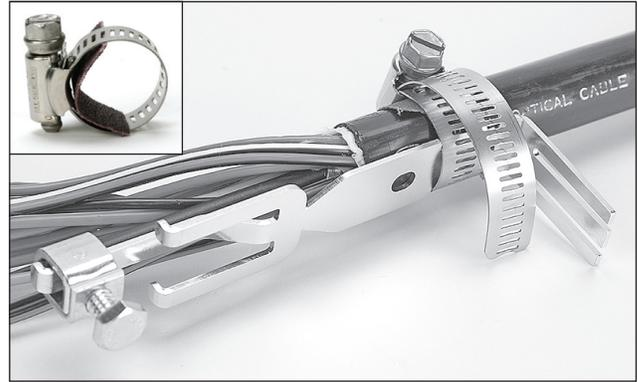

Figure 2
- 3.4.2 If cable has central strength member, assemble strength member clamp onto strain relief bracket as shown in Figure 2. Mark and cut the central strength member at end of strength member clamp. Slide central strength member under retention lug and tighten bolt to 40 in-lbs \pm 5 in-lbs (4.6 N•m \pm 0.6 N•m). Install hose clamp and tighten to 40 in-lbs \pm 5 in-lbs (4.6 N•m \pm 0.6 N•m).